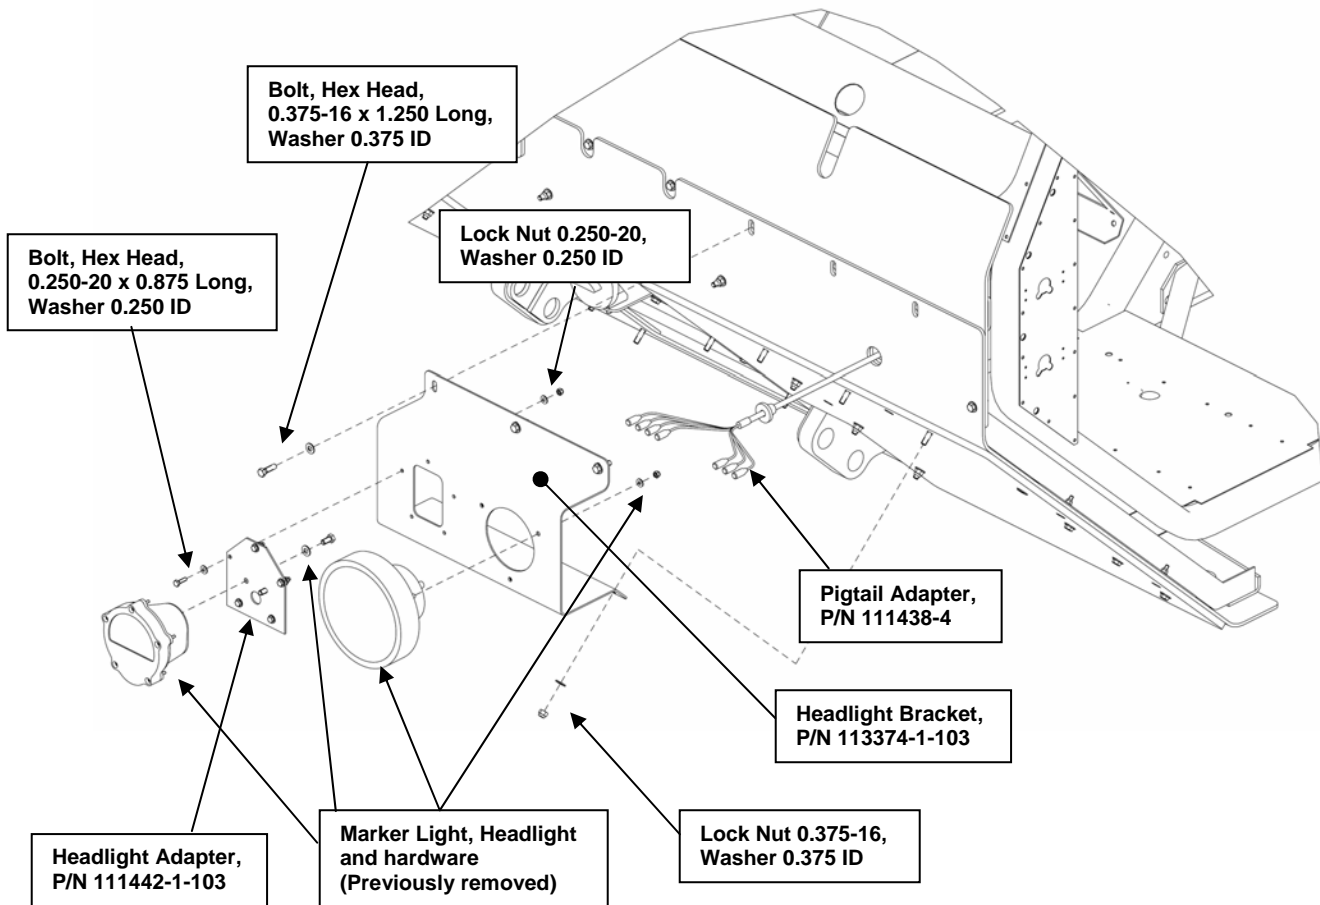

**Figure 51. Left Headlight Assembly installation (Configuration A).**
- o) In order to install the Headlight Assemblies, it is necessary to identify which type of Marker Light is used on the vehicle. Before being removed, the Marker Light was located just inboard of the Headlight. Inspect the Marker Light and determine whether an incandescent bulb (i.e., a common lamp bulb) is used inside the light. If an incandescent bulb is **NOT** found, use Configuration A as shown in Figure 51 and Figure 52, and install the Headlight Assemblies using Steps (p) through (z). If an incandescent bulb **IS** found, use Configuration B as shown in Figure 53 and Figure 54, and install using Steps (aa) through (mm).
- p) Attach the Headlight Bracket (P/N 113374-1-103) on the left side of the vehicle using the hardware, as shown in Figure 51.
- q) Route the Pigtail Adapter (P/N 111438-4) through the hole in the armor and cab, as shown in Figure 51. Insert the rubber grommet into the hole located at the center of the Light Cover (P/N 113379-1-103) that was installed in Step (f). Connect the corresponding wire leads located inside the cab.
- r) Attach the Marker Light to the Headlight Bracket using the hardware shown in Figure 51.